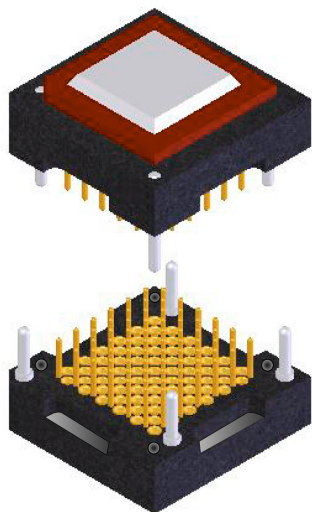

Fig. 13a
- 13.1.1 Align the four alignment pins. [Fig. 13a]